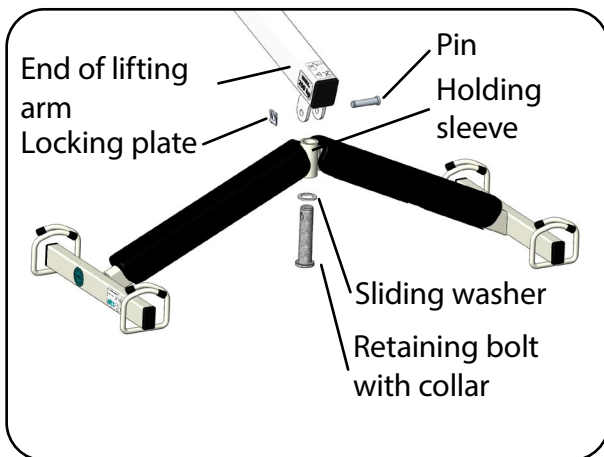

Fig. 6.2.07 - Assembly of the spreader bar
14. To mount the spreader bar, remove the locking plate and then remove the pin from the hole on the end of the lifting arm (Fig. 6.2.07). This separates the retaining bolt with collar from the lifting arm.
16. Then insert the retaining bolt with collar together with the sliding washer from below through the holding sleeve of the spreader bar (Fig. 6.2.07). The sliding washer lies on the collar of the retaining bolt.